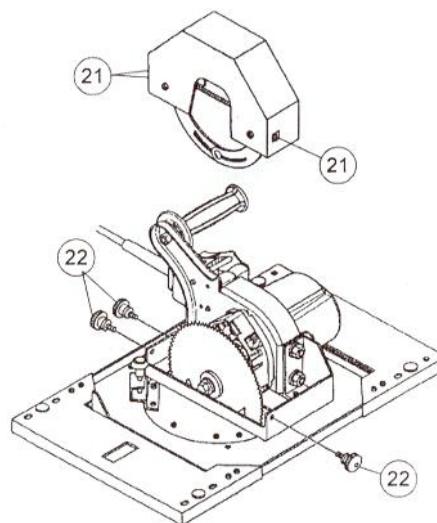
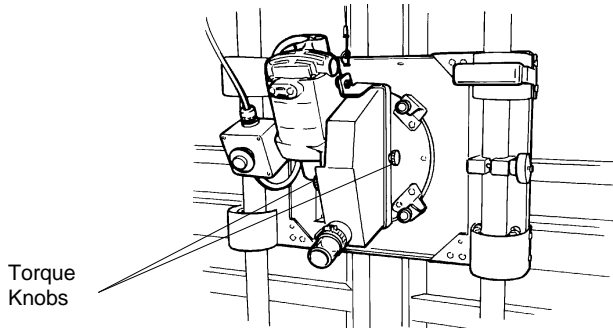

Figure 20: Installing the Blade Guard (Models C4, C5, H4, H5, H6)
Figure 21: Installing the Blade Guard (Models 6400, 6800)
The blade guard is attached to the carriage with the red torque knobs (22), Figure 20 or Figure 21. Remove the torque knobs to remove the guard. Be sure to leave the rubber washers on the torque knobs because they prevent the knobs from slipping. Always install the blade guard before operating the saw (21).